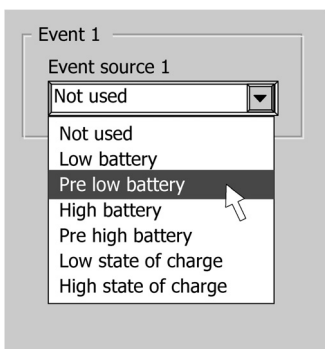

Figure 14
- Click on the drop box and select the event at the command source that should be the trigger for an action (Example: Pre low battery) (figure 14).